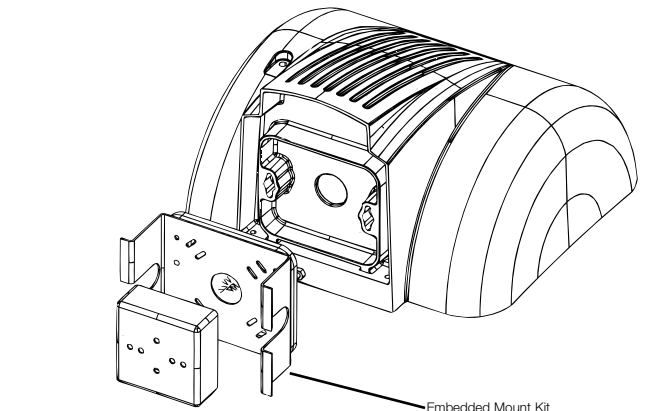

Fig. 2
2. Embedded Mount—mounts to a plate embedded into the wall (Optional Accessory VWM/EM) (See Fig. 2).